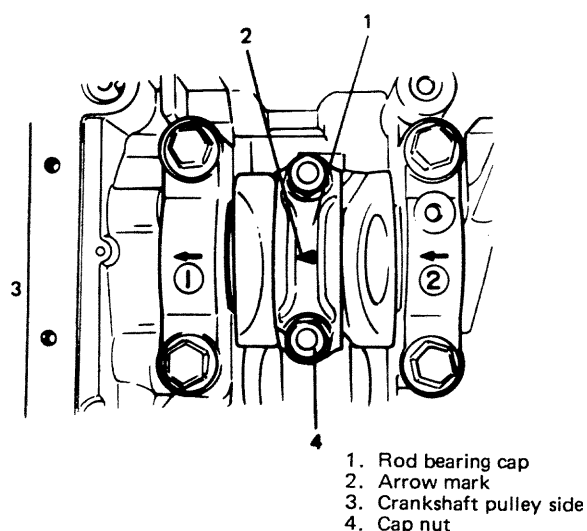

Fig. 3-5-36 Installing bearing cap
- 4) Install rod bearing cap to connecting rod. When installing cap, be sure to point arrow mark on cap to crankshaft pulley side, as indicated in Fig. 3-5-36. Tighten the cap nuts to the specified torque. DO NOT turn crankshaft with gaging plastic installed.